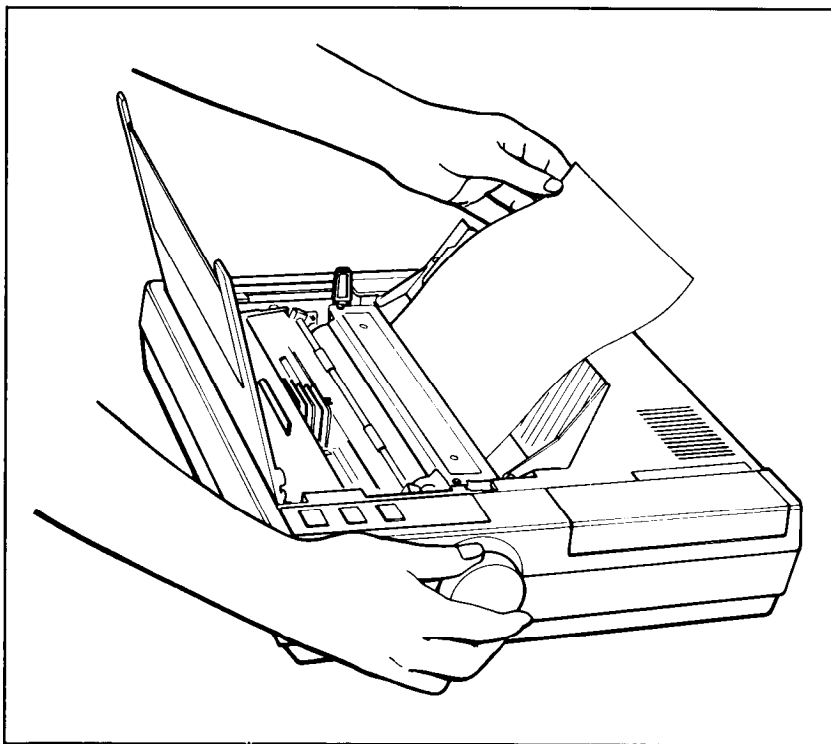

Figure 1-9. Loading single-sheet paper
1. Check that the dust cover is tilted up to make it easier to see inside the printer, as shown in Figure 1-9.
3. Insert a single sheet of paper behind the platen as shown in Figure 1-9. Put the left edge of the paper against the edge tab on the single sheet guide.